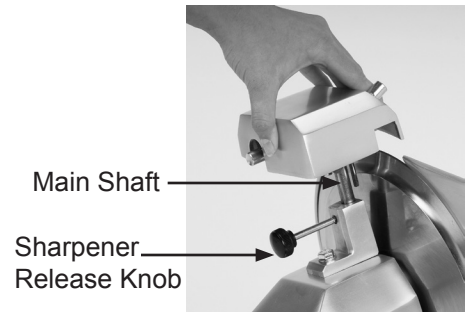

Figure 14-1
1. Loosen the sharpener release knob and pull the sharpener up to remove it (Fig. 14-1).
4. Put several drops of Globe oil on the main shaft (Fig. 14-1), place the sharpener back into position and tighten the sharpener release knob.